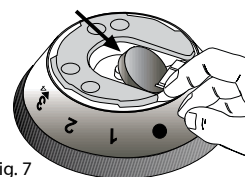

Fig. 7
- Then remove the battery by applying pressure to the edge, as shown in figure 7.